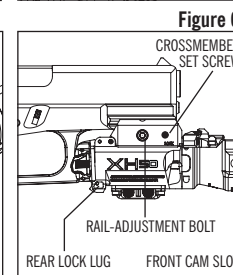

Figure 6
2. Use .050” hex wrench to loosen the crossmember set screw forward of the rail adjustment bolt hole (Figure 6). It is not neces-
5. Tighten crossmember set screw (Figure 6).
4. Using an IN-LB wrench tighten Rail-Adjustment bolt to 8 IN-LB when mounting weaponlight to a polymer frame and to 8-9 IN-LB when mounting to a metal frame. If an IN-LB wrench is not available use the supplied 7/64” hex wrench to tighten Rail-Adjustment Bolt until snug. Further tighten Rail-Adjustment Bolt to no more than a 1/4 turn or when Rail-Adjustment bolt stops moving. **Do NOT overtighten!** The bolt will break if excessive force is applied with a tool (Figure 6).